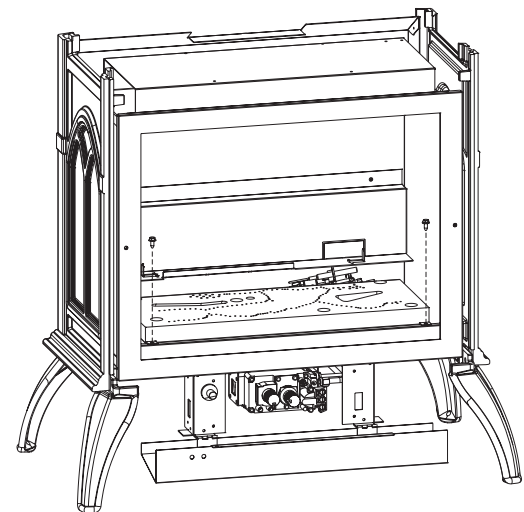

Figure 7
6. Remove the burner by removing the two (2) screws at the front of the burner as shown in Figure 7.
9. Tighten the two (2) nuts back down locking the air shutter in place. Be sure that the air shutter is the same distance from the burner orifice on both sides of the air shutter for proper burner fit up.
11. Replace the two (2) screws at the front of the burner shown in Figure 7.
12. Replace the log shelf by replacing the two (2) screws removed in Step 4 securing the log shelf to the rear wall.
14. Replace the screen door by replacing the two (2) screws removed in Step 3.